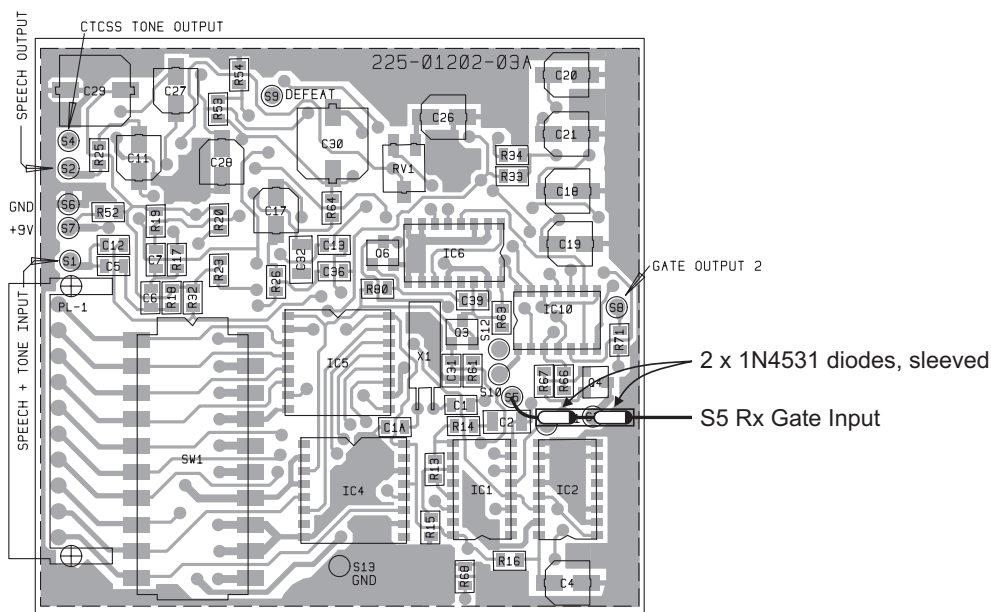
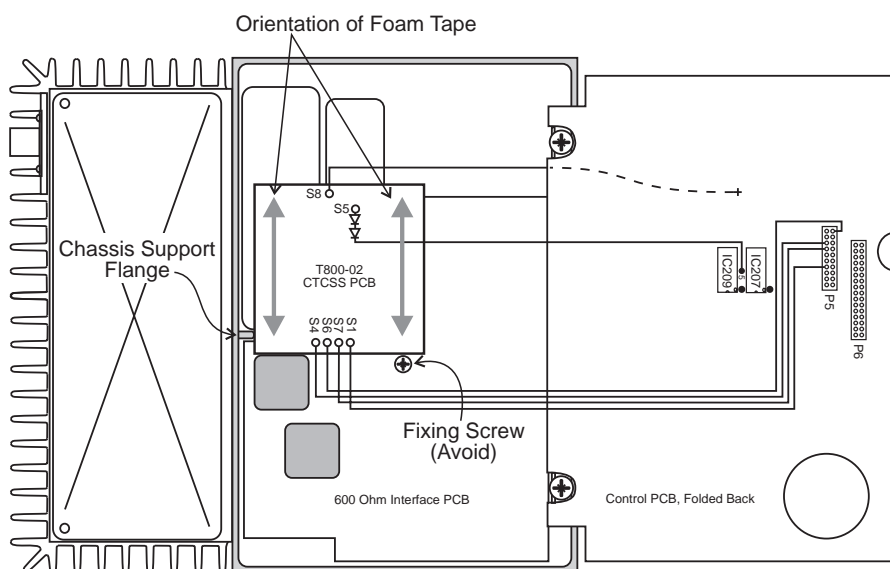

Figure 6 T800-02 PCB Layout - Top Side
Figure 8 T800-02 To T700 Mounting Details
2. Remove the wire from S5 and solder the two 1N4531 diodes between S5 and the end of the wire, as shown in Figure 6 and Figure 8.
2. Attach the wires from the T800-02 PCB to the top side of the T700 control PCB as follows (refer to Figure 8):
4. Cut the double sided foam tape into three pieces of equal size. If the T700 is fitted with a 600 Ohm interface PCB, discard one piece of tape and position the remaining two pieces on the bottom of the T800-02 PCB. The two strips of tape should be flush with the PCB edges, and run in the direction shown by the arrows in Figure 8.
If the T700 is *not* fitted with a 600 Ohm interface PCB, stick two of the lengths of tape together so that they can be used as a double thickness. Position the tape on the bottom of the T800-02 PCB as shown in Figure 8, with the double thickness on the side that will be closest to the unfolded control PCB.
5. Position the T800-02 carefully so that none of its components come into contact with parts on the closed control PCB. Avoid contact with the 32V regulator coil by placing the CTCSS PCB hard up against the chassis support flange indicated in Figure 8, and as close as possible to the centre line of the radio.
Note: Ensure that the T800-02 does not come into contact with the 600 Ohm interface PCB fixing screw indicated in Figure 8.